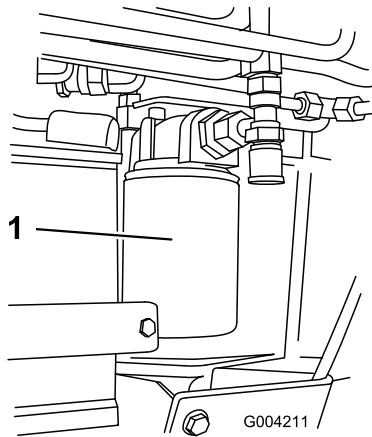

Figure 67
4. Place a drain pan under the filter (Figure 67).
5. Remove the old filter (Figure 67) and wipe the surface of the filter adapter gasket clean.
7. Install the replacement hydraulic filter onto the filter adapter (Figure 67). Tighten it clockwise until the rubber gasket contacts the filter adapter, then tighten the filter an additional 3/4 turn.